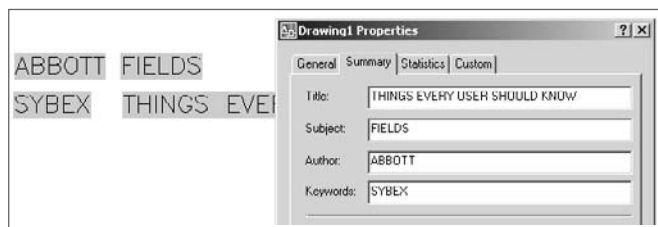

Figure A.6
- You can create drawing properties (title, author, comments, keywords or custom) from the File pull-down menu. Once you've defined custom properties, they're listed by the names you gave them in the list of possible fields. Change the properties, and they change in the field location (either in a table or anywhere else). (See Figure A.6.)